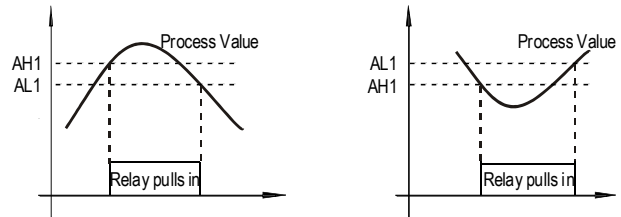

Figure 5. Reply (J1) action when the alarm is set as high alarm (left) and low alarm (right).
- 2) Set AH1 > AL1, relay is for high limit alarm. See Figure 5 (left).
- 3) Set AH1 < AL1, relay is for low limit alarm. See Figure 5 (right).